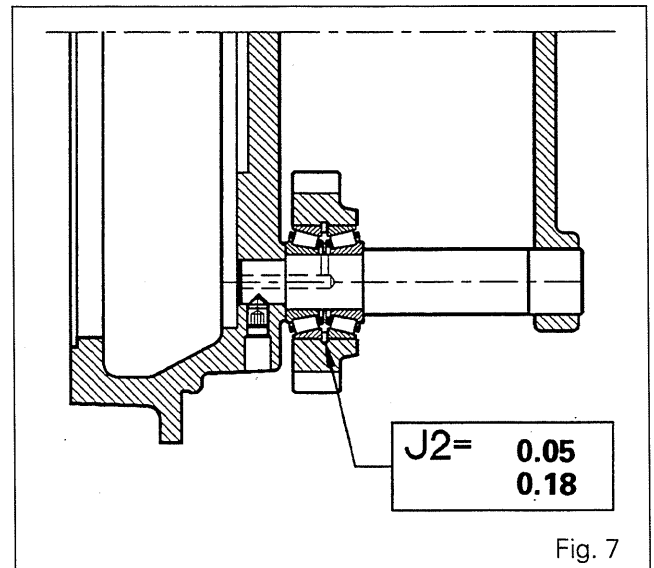

Fig. 7
40. Shim (Fig. 7) to obtain a clearance **J2 = 0.05 to 0.18**